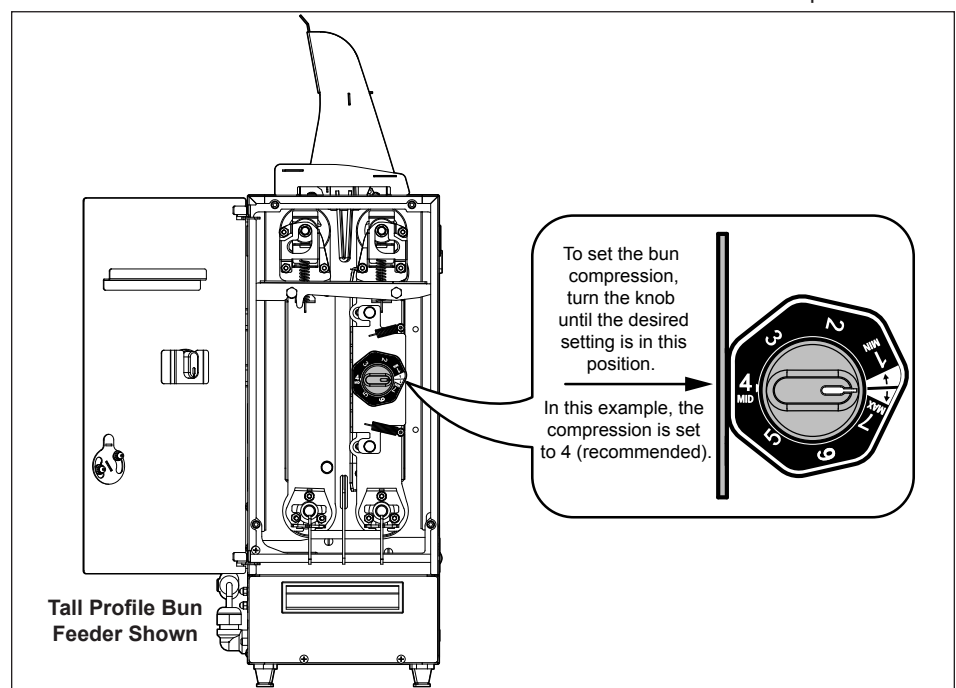

Figure 2. Compression Settings
2. Place the black knob on the cam as shown in Figure 2
3. Turn the knob to the desired bun compression setting. The recommended setting is 4. See Figure 2.